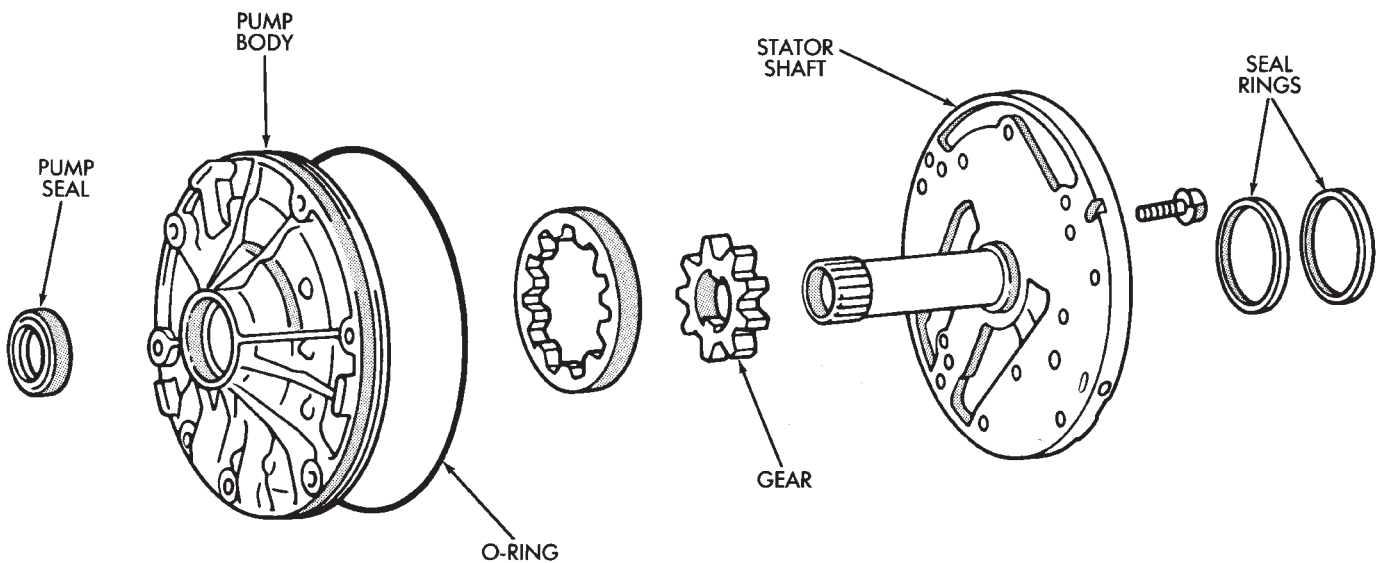

Fig. 1 Oil Pump Components
- (2) Remove pump seal rings (Fig. 1).
- (3) Remove bolts attaching stator shaft to pump body and separate components.
- (4) Remove drive gear and driven gear from pump body (Fig. 1).